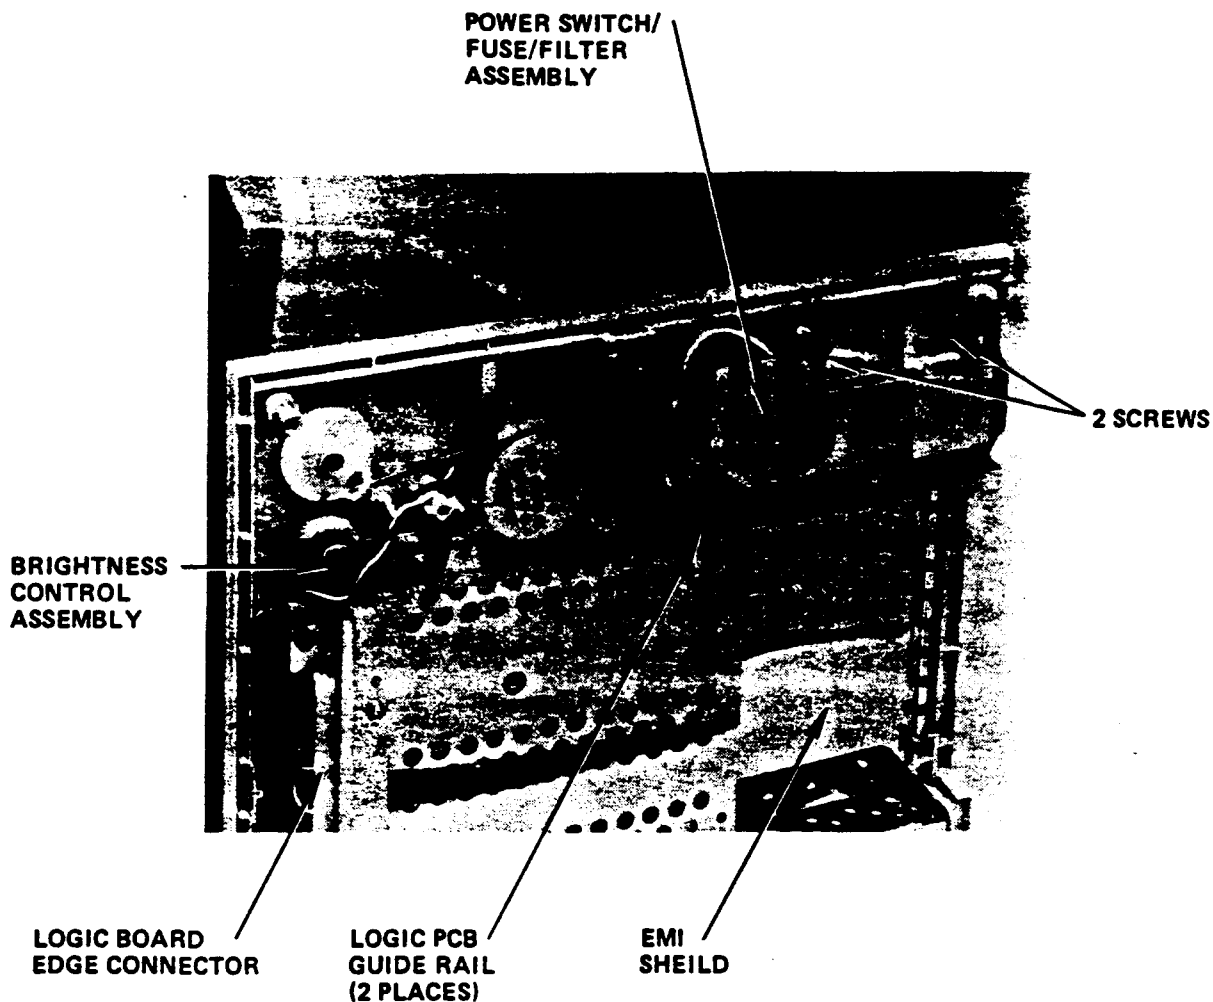

Figure 2-16. Removing and Replacing the Brightness Control Assembly and the Power Switch/Fuse/Filter Assembly
4. Remove the black, white and red wires (pins 12, 13, 14) from the Logic Board Edge Connector, using the special terminal pin extraction tool (Qume Part Number-302156-01). Refer to Figure 2-16.
3. Remove the two screws, lock washers and washers that secure the assembly to the Lower Monitor Assembly (see Figure 2-16).
4. Pull the Jnit away from the Lower Monitor Assembly. The black and white wires are common to the transformer; refer to the Transformer Removal and Replacement procedure to disconnect the power switch/fuse/filter assembly from the transformer (refer to Figure 2-16).
To replace the unit, perform the removal instructions in reverse order. Before tightening the screws all the way, insert the Power Switch guide rod into the base of the power knob assembly (refer to Figure 2-16).